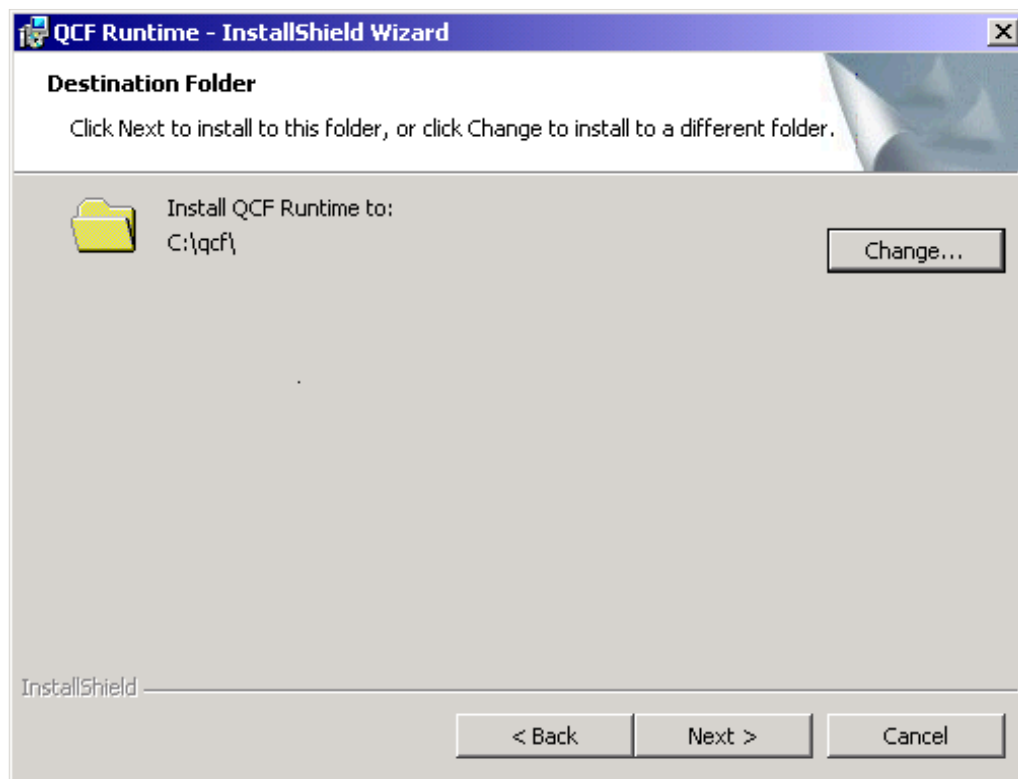

FIGURE 168. Updated Extermination Folder window
15. The Destination Folder window appears again, but this time, with the proper directory as in Figure 168.